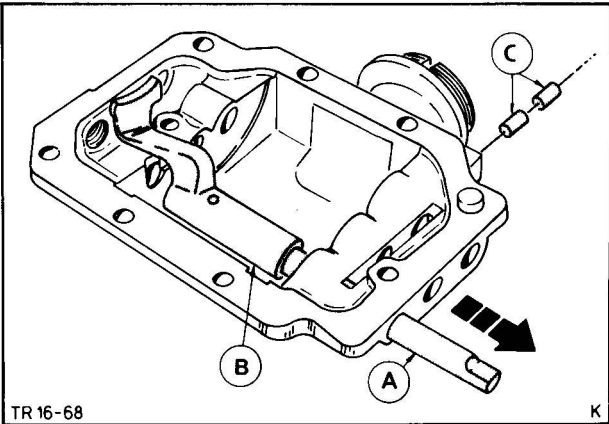

Fig. 119. Remove reverse gear selector rail and selector fork
- 6. Remove plungers and take out reverse gear selector rail and selector fork, Fig. 119.